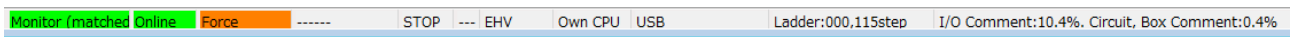

Fig. 6.4.8 Status bar
- The CPU which is not supported this function (ROM Ver.*132 or lower)(MICRO-EHV) cannot force input. In this case, the warning message (Fig. 6.4.8) is displayed when [Force input] is clicked with the mouse.